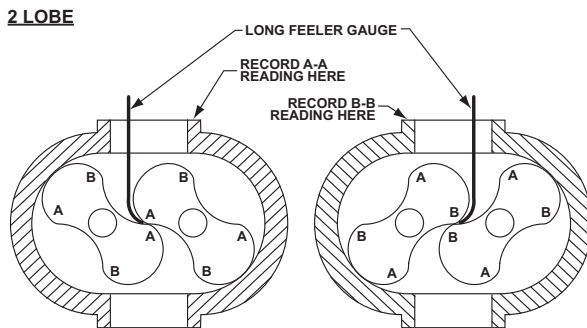

Figure 8-4 – Checking Rotor Interlobe Clearance
25. Use feeler gauges to check the clearance at AA (right-hand reading) and BB (left-hand reading) (see **Figure 8-4**). The clearance should be adjusted so it is as equal between all lobes as possible, usually between 0.002 to 0.003 in. (0.0508 to 0.0762 mm). For best results, use feeler gauges no larger than 0.006 in. (0.1524 mm).